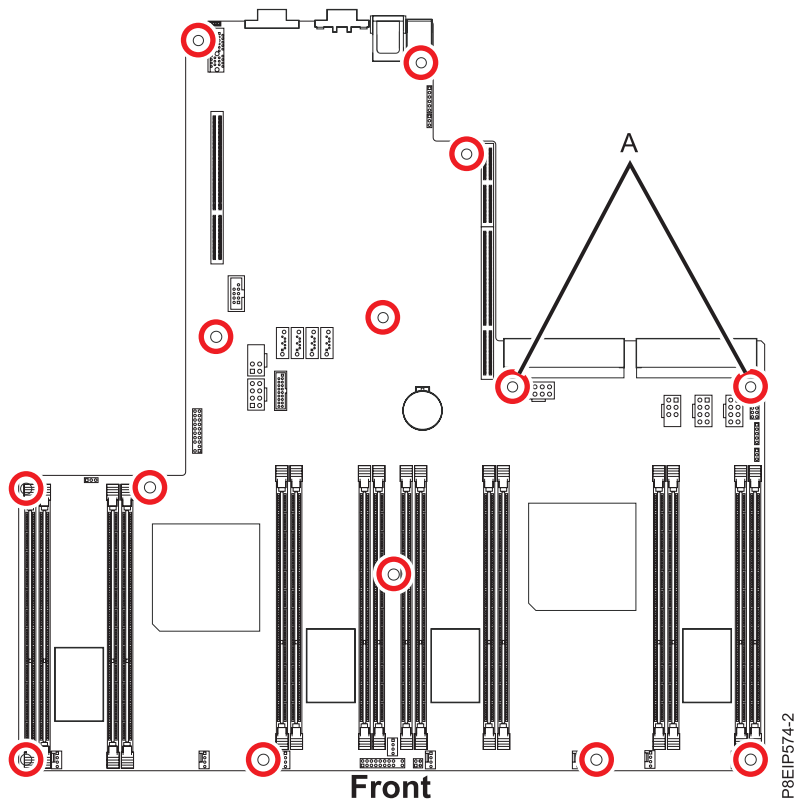

Figure 41. Screw locations. The two screws at **(A)** are black and slightly longer.
14. Align and screw the 14 screws into the system backplane. The screw locations are shown in Figure 41 on page 40.